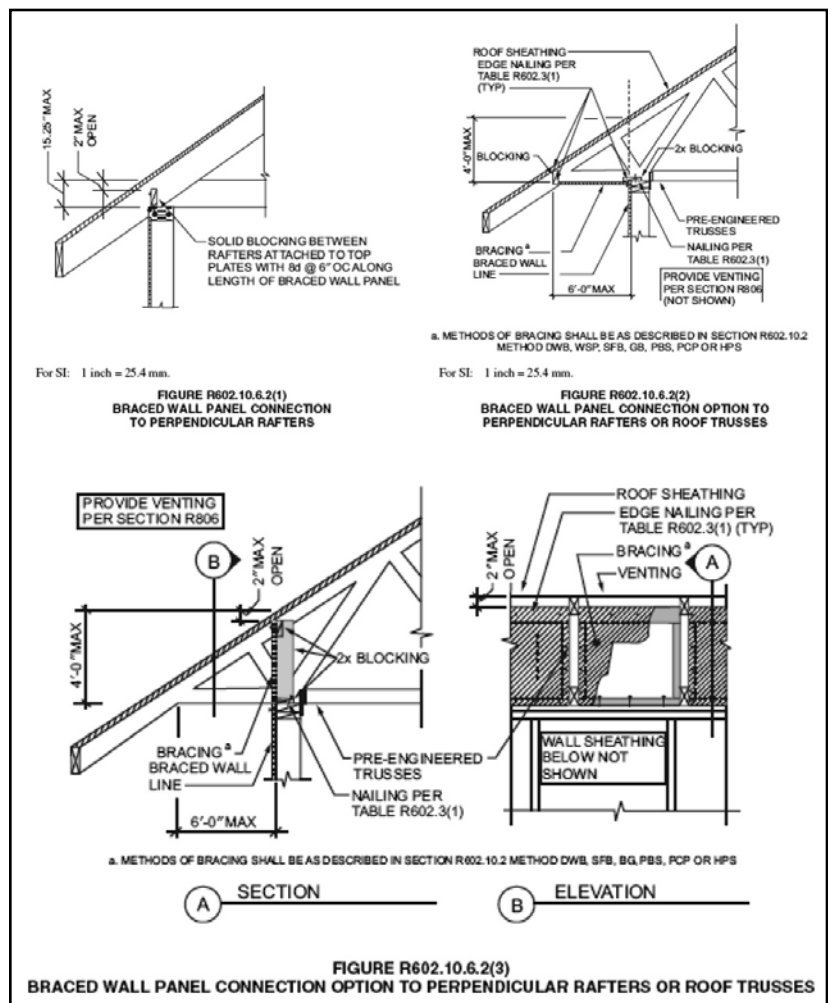
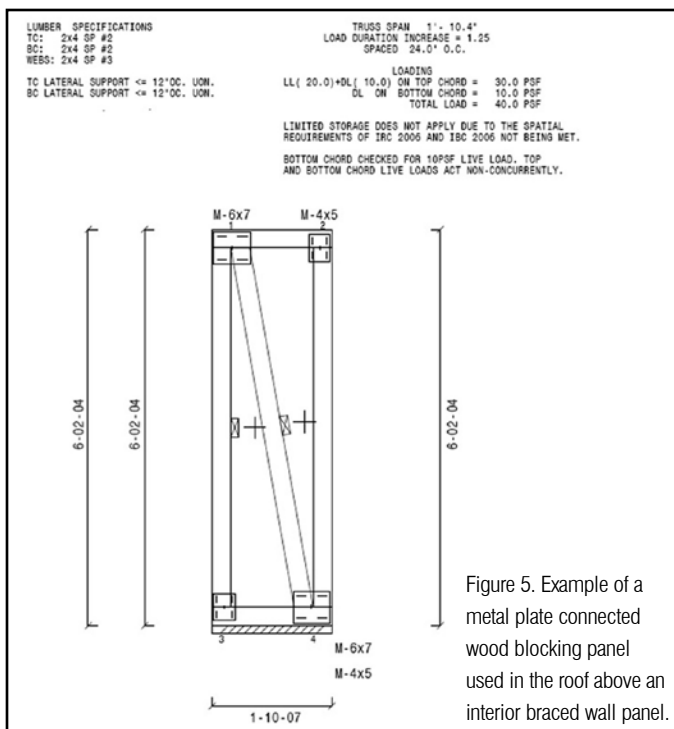

Figure 4. Braced wall panel connection options to perpendicular rafters or roof trusses per the 2009 IRC.
Figure 5. Example of a metal plate connected wood blocking panel used in the roof above an interior braced wall panel.
Figure 4 illustrates several braced wall panel connection options for rafters or trusses perpendicular to the wall. Note in Figures R602.10.6.2(2) and R602.10.6.2(3) that the acceptable bracing methods include several of the allowable methods used to construct the braced wall panels: diagonal wood boards (DWB), wood structural panels (WSP), structural fiber-board sheathing (SFB), gypsum board (GB), particleboard sheathing (PBS), Portland cement plaster (PCP), and hardboard panel siding (HPS). Also note that the maximum allowable heel height for these prescriptive details is 4'. For greater heights, an engineered solution is required, which could include a metal plate connected blocking panel as shown in Figure 5.